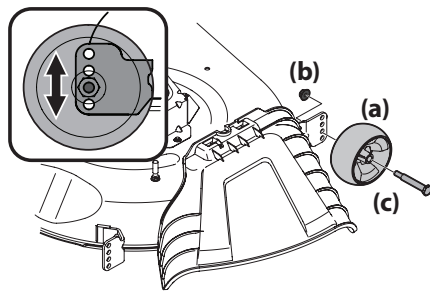

Figure 12
- b. Remove the deck wheels (a) by removing the flange lock nuts (b) and shoulder bolts (c) that secure them to the deck. See Figure 12.